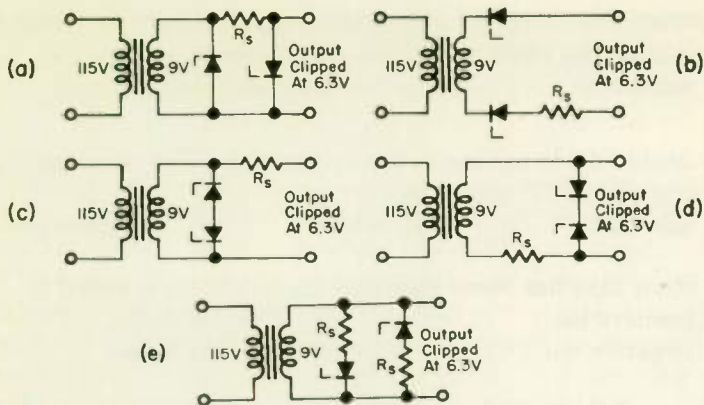

Fig. 31
- The semiconductor device that takes the place of the zener diode for applications below three (3) volts is the
- One of the circuits in Fig. 31 is used to limit the swings of the secondary voltage to maximum values of 6.3 volts. This voltage is used as the filament supply for a precision test equipment, where an increase in filament voltage would affect the accuracy of the instrument. Assume all the zener diodes to have an E_z of 6.3 volts, with negligible voltage drop when conducting in the forward direction. Which circuit will restrict the voltage swing to 6.3 volts?